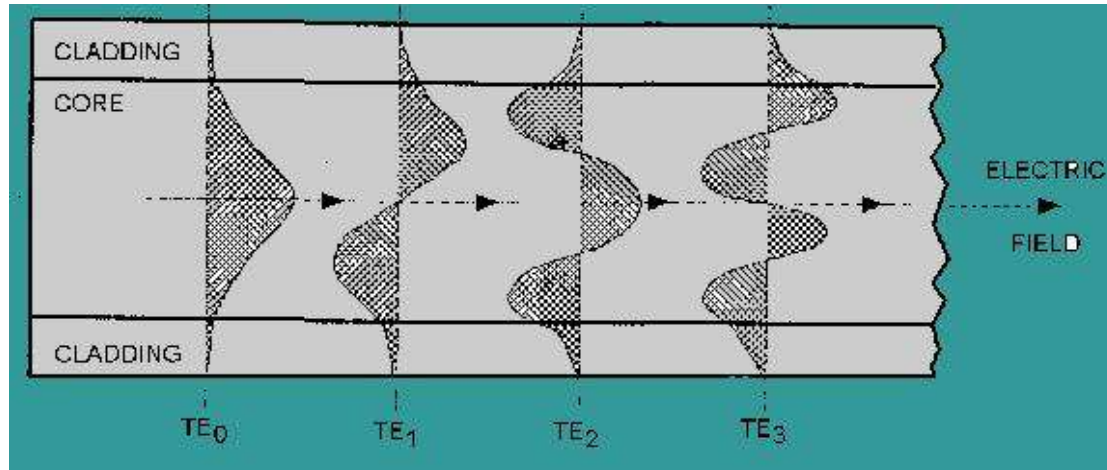

Fig. 2.5 Electric field distribution for several of lower - order guided modes
- The transverse modes, shown in Fig. 2.5, propagate along the axis of the fiber.
- Another type of transverse mode is the transverse magnetic (TM) mode.
- Fig. 2.5 shows only TE modes.
- The TE mode field patterns shown in Fig. 2.5 indicate the **order** of each mode.